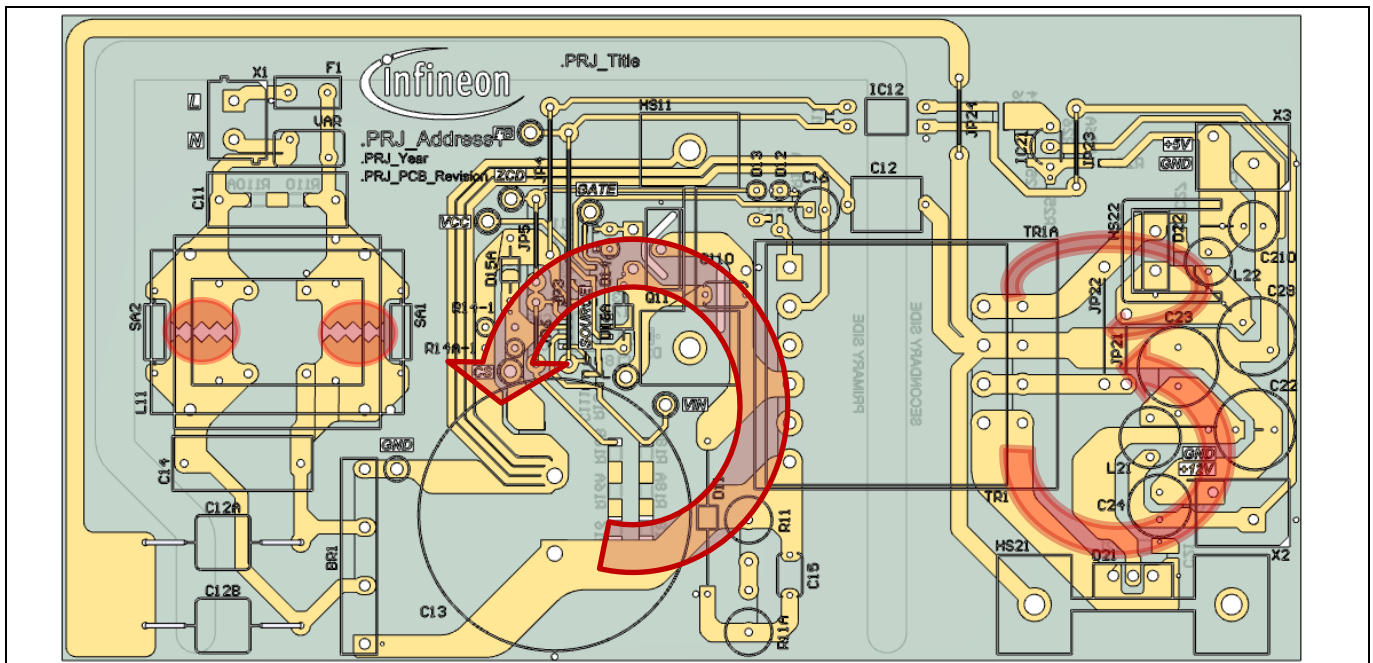

Figure 3 PCB layout tips
- The power loop needs to be as small as possible (see Figure 3). There are three power loops in the demo design; one from the primary side and two from the secondary side. For the primary side, it starts from the bulk capacitor (C13) positive to the bulk capacitor negative. The power loop components include C13, the main primary transformer winding (pin 6 and pin 4 of TR1), the power MOSFET (Q11) and the CS pin of the controller IC11 and CS resistors R14 and R14A. For the secondary side, the 12 V output starts from the secondary transformer windings (pin 8 of TR1), output diode D21 and output capacitors C22 and C23, while the 5 V output starts from the secondary transformer windings (pins 11 of TR1), output diode D22 and output capacitor C28.
- Separating the HV and LV components e.g. clamper circuit D11, R11, R11A and C15 at the lower part of the PCB (see Figure 3) and the other LV components at the top part of the PCB can reduce the spark-over chance of the high energy surge during ESD or a lightning surge test.